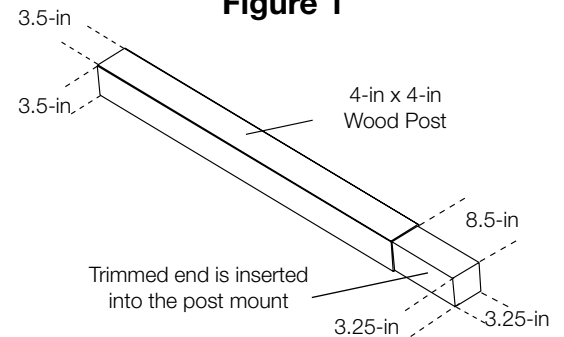
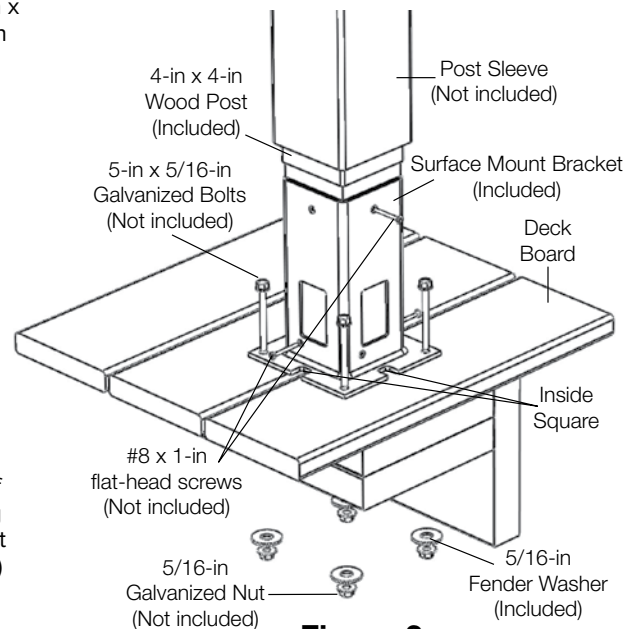

Figure 2
Figure 3
8. Insert the trimmed end of the 4-in x 4-in wood post (included) into the mount. If necessary, place a shim under the mount to make the post plumb and true (Fig 2). If the wood post is loose within the mounting bracket, secure the wood post on two opposing sides with at least (3) #8 x 1-in flat-head screws (Not included) (Fig 3).
10. Secure the four bolts underneath the reinforcement boards with the 5/16-in Fender washer (Included In Kit) and 5/16-in galvanized hex nuts (Not included) (Fig 3).